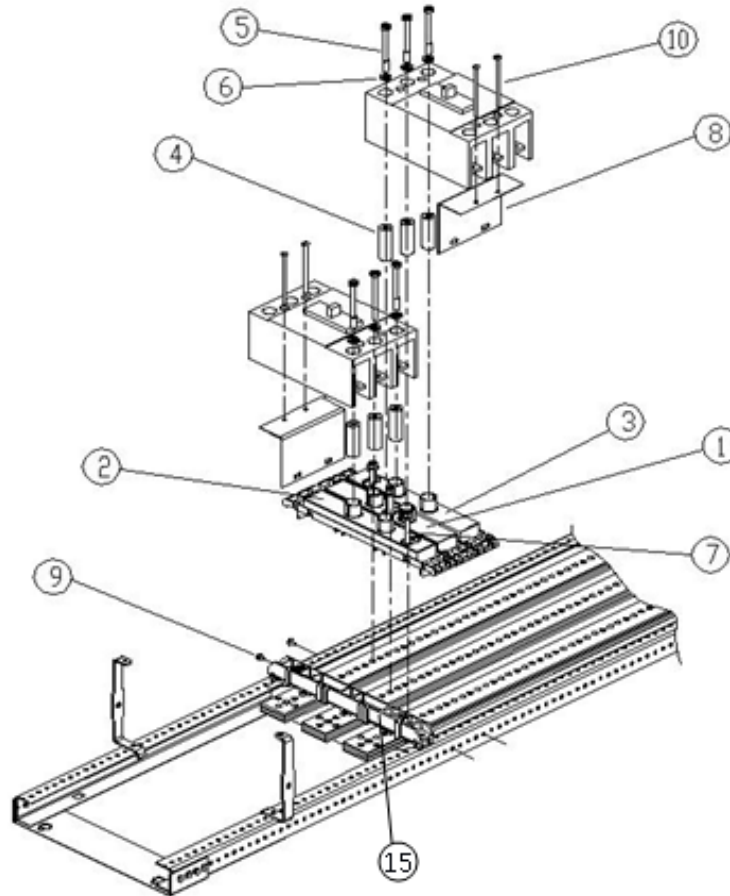

Figure 1. Installation of a TQD circuit breaker kit, catalog number ASPP6QD6D, into an A-Series® II Panelboards.
Use the following procedure to install a TQD circuit breaker kit. Call-out numbers in the illustrations and numbers in brackets in the text refer to the Item Numbers in Table 1. Installation of a three-pole kit is illustrated in Figure 1.
4. Refer Fig.no.1 to mount the breaker on interior. Place branch base for A phase [2] adjacent to crossbar [15] as shown in fig.1 and insert the screw [7] through slot provided to mount it to A phase main busbar. Similarly mount B phase branch base [1] to B phase main busbar adjacent to A phase branch base and C phase branch base [3] to C phase main busbar adjacent to B phase branch base. All phase branch bases should be clamped to main bus using screw [7] with 60 in-lb. Maximum.
6. Place the conical washer [6] over the three $\frac{1}{4}$ -28 x $1\frac{3}{8}$ screws [5] and insert the screws through the holes in the top of the circuit breaker. Secure the three spools [4] to the underside of the breaker terminals with the screws [5]. Take care to assemble the screws to the spools as shown in Figure 1, with the tapped end of the spool toward the breaker terminal.